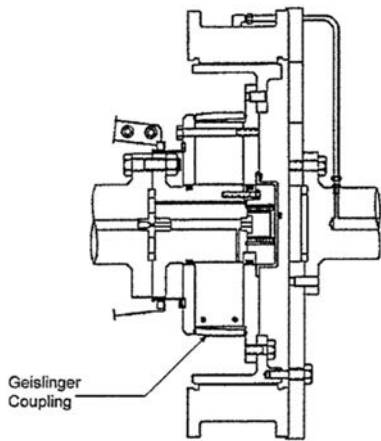

Figure 7
2.1.5 **Figure 7** illustrates a typical marine main propulsion application where the clutch is mounted between the engine and reduction gear. In this arrangement, the VC clutch is combined with a Geislinger® flexible torsional coupling.